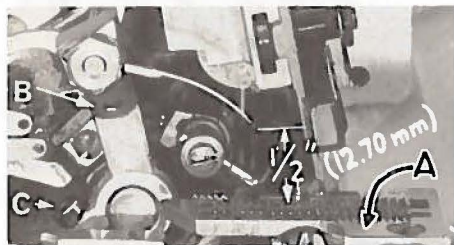

Fig. 4
With throat plate attached to the throat plate support (39580 C) and resting on the throat plate support bracket (39580 AB), needle should center in the front end of needle slot. When needle is at high position, needle point should be set $1/2$ inch (12.70 mm) above throat plate (A, Fig. 4). To align needle or set the height above the throat plate, move needle driving arm (B), by loosening clamp screw (C). After needle has been set properly, tighten screw (C) and remove throat plate.